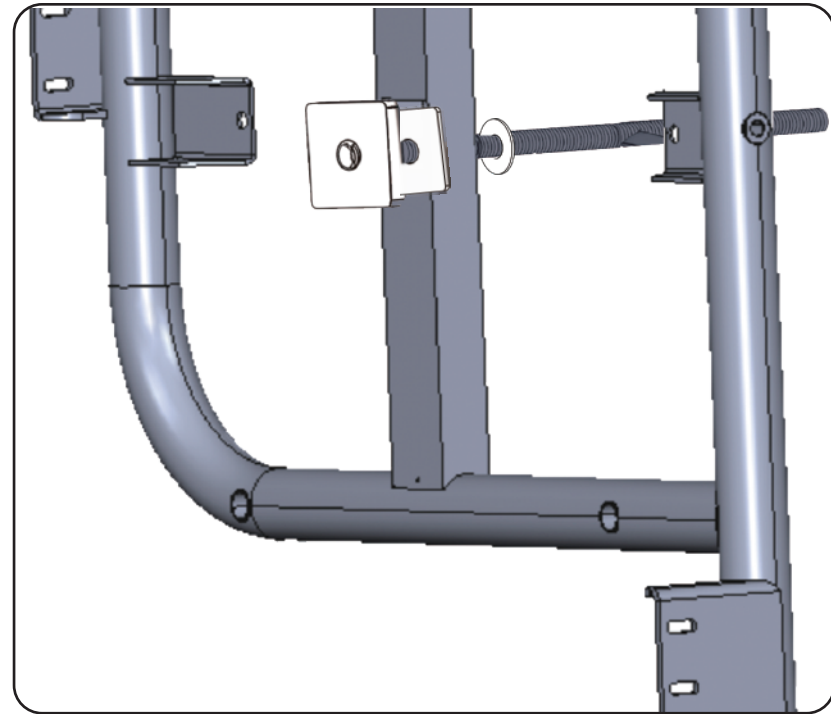

FIG:15
6.1 Assemble the Tire Carrier: Slide the **Square Washer** down the **M14 Threaded Rod** then place the rod through the **Tire Carrier Frame** using an **M14 washer** and **M14 Nylock Nut** to hold it in place. You will utilize a **22mm Open end or Box Wrench** to tighten it down. (**FIG 15**)